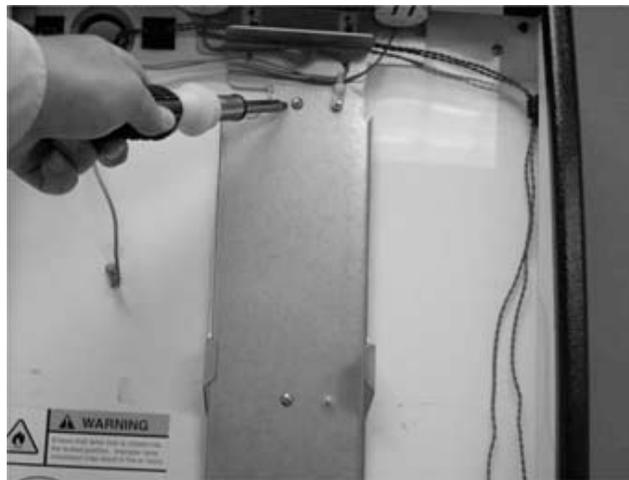

Figure 75.
- C. Attach 2 screws and nuts, as shown in Figure 75.